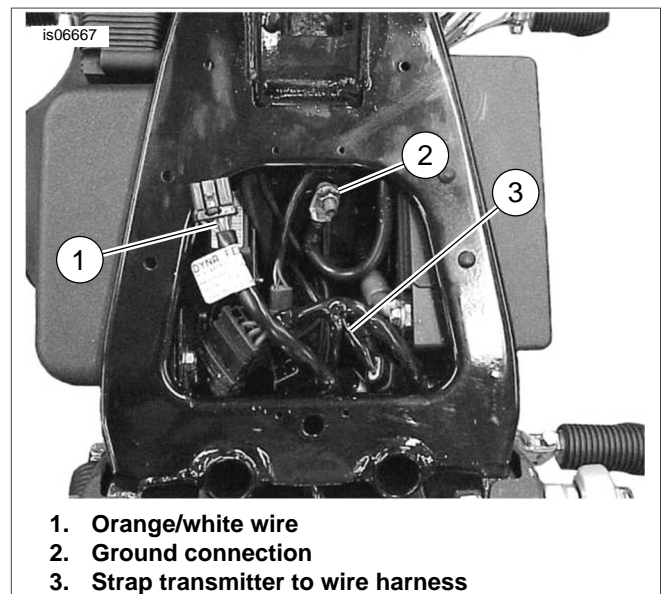

Figure 2. Transmitter Mounting (Dyna)
2. See Figure 2. Use cable straps to fasten the transmitter to the Dyna wire harness (3), located under the seat and near the battery compartment. Route the transmitter wires forward along the right side of the frame.